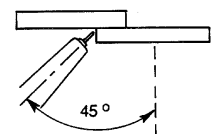

Figure 2.8
- The electrode should be positioned at a 45° work angle and a 10° to 15° push angle to perform the weld. (See Figures 2.8 and 2.9.)